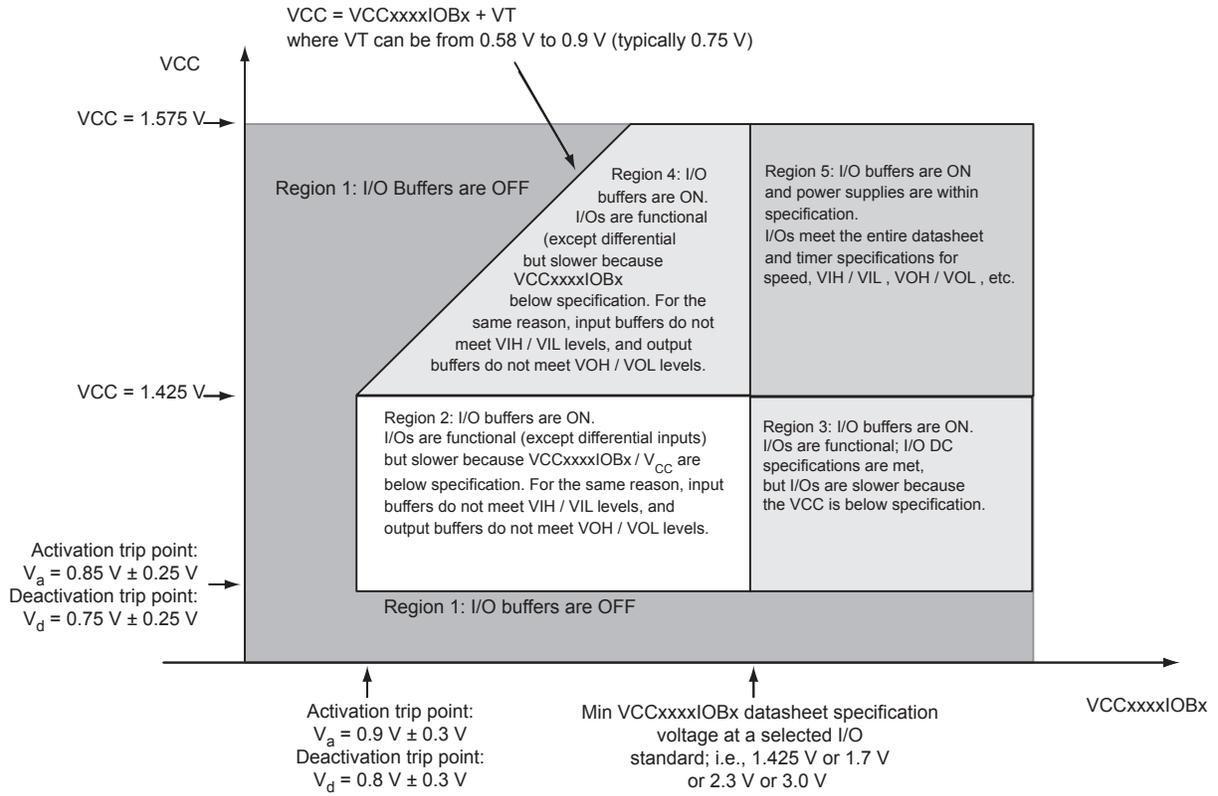

Figure 2-1 • I/O State as a Function of VCCxxxxIOBx and VCC Voltage Levels
Sophisticated power-up management circuitry is designed into every SmartFusion[®] device. These circuits ensure easy transition from the powered-off state to the powered-up state of the device. The many different supplies can power up in any sequence with minimized current spikes or surges. In addition, the I/O will be in a known state through the power-up sequence. The basic principle is shown in Figure 2-1 on page 2-6.
1. VCC and VCCxxxIOBx are above the minimum specified trip points (Figure 2-1 on page 2-6).
Actel recommends using monotonic power supplies or voltage regulators to ensure proper power-up behavior. Power ramp-up should be monotonic at least until VCC and VCCPLLx exceed brownout activation levels. The VCC activation level is specified as 1.1 V worst-case (see Figure 2-1 on page 2-6 for more details).